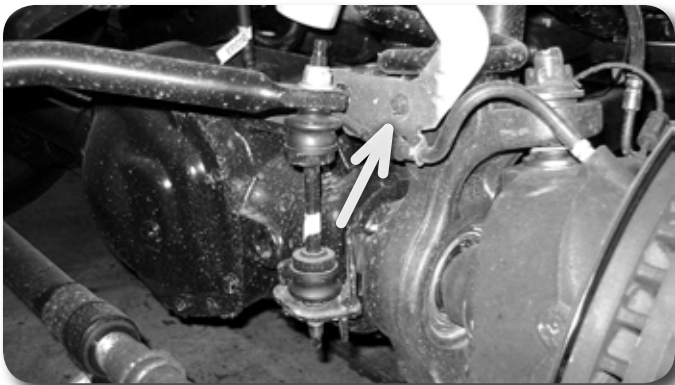
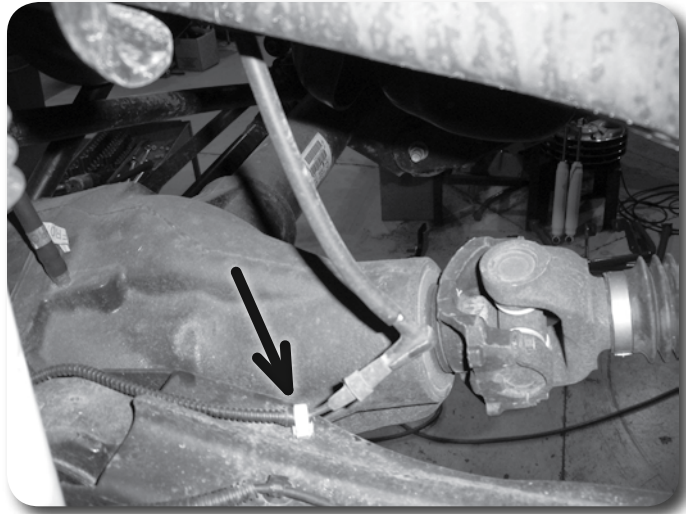

Figure 3
Figure 4A
7. Disconnect the front brake line brackets from the axle **Figure 3**. Save hardware. Remove the front axle hub vacuum lines retaining clips from the axle/radius arm. **Figure 4A,B**